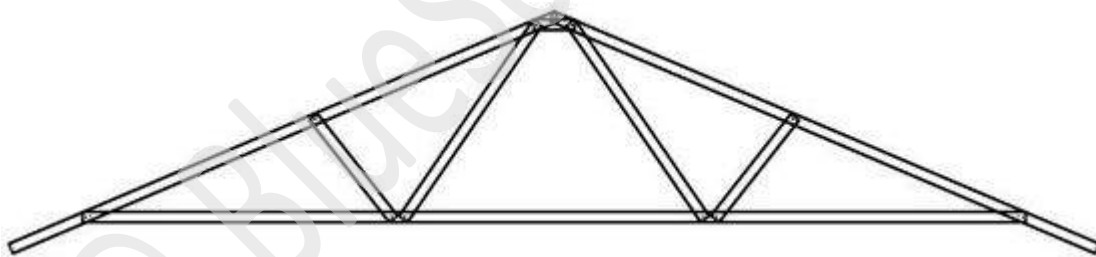

Figure 5.3 Standard 'A' Truss/ Dutch Gable Truss
5.1) Standard A-Truss: An A-framed truss supported at both ends by load bearing walls. It forms the main gable roof block. (Refer Fig. 5.3)